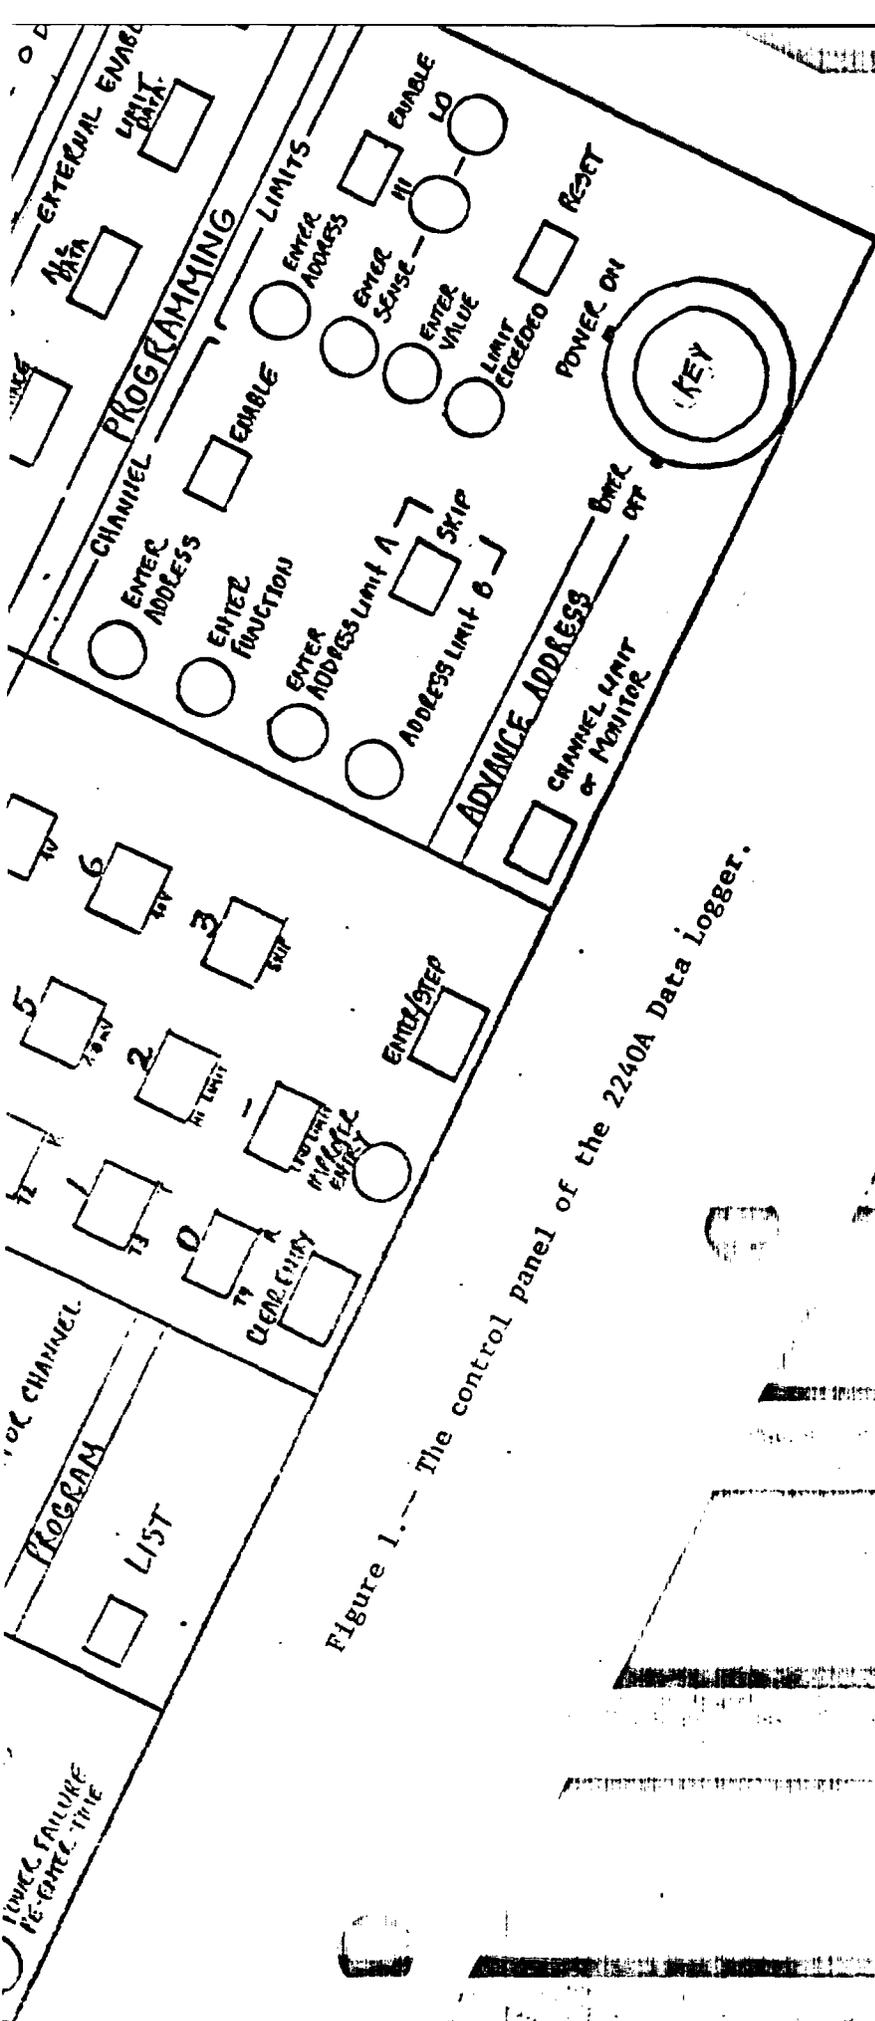

Figure 1.--- The control panel of the 2240A Data Logger.
1.1.1 Plug the cord of the data logger into the ivory colored, electrical outlet mounted on the right side of the control panel housing. (Figure 1)